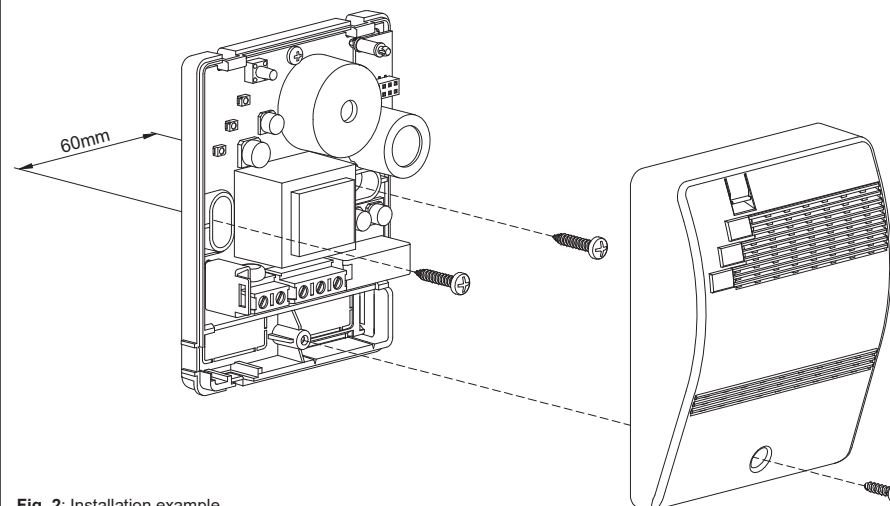

Fig. 2: Installation example.
3. Remove the detector's panel as shown in Fig. 2.